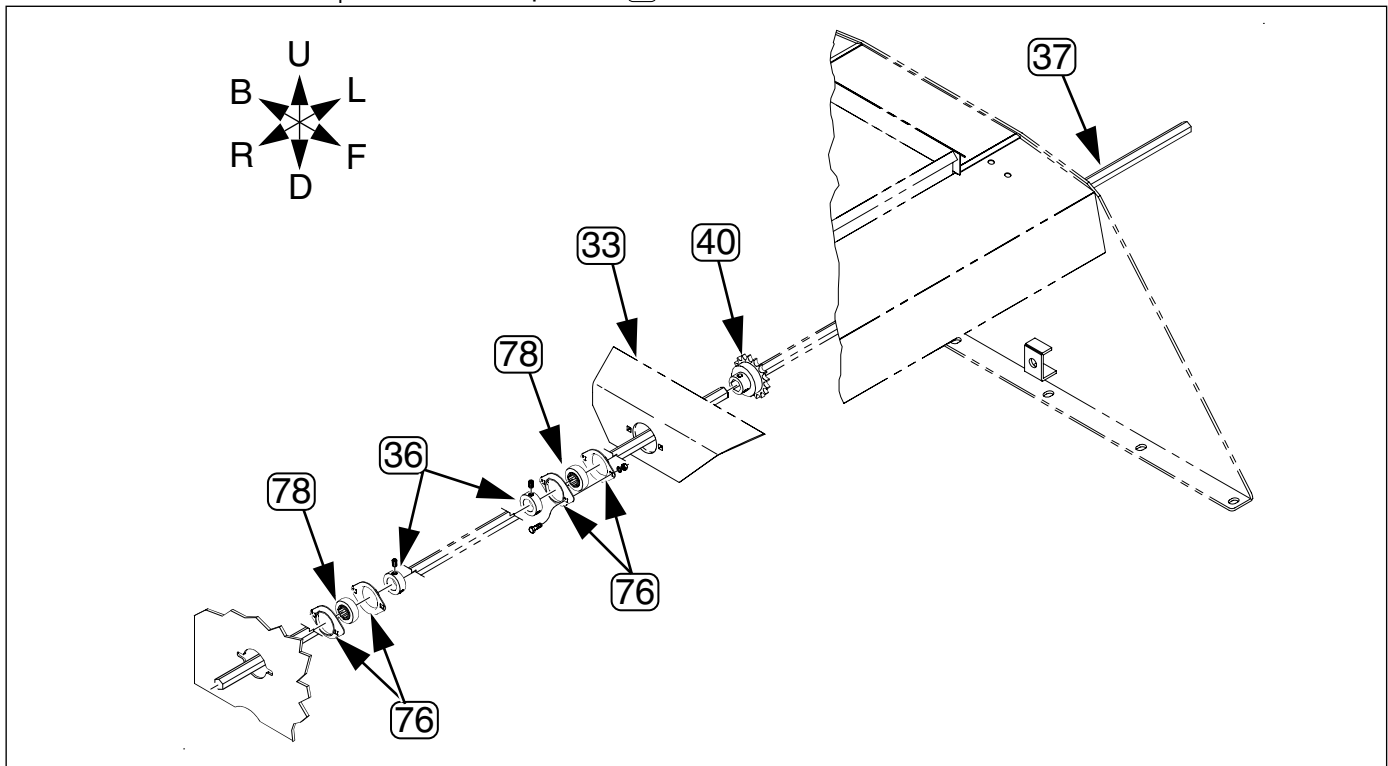

Figure 7
6. Bolt the  $\frac{3}{4}$  inch hex bore bearings (78) and flangettes (76) to the center panel, partition, and idler plate using  $\frac{5}{16}$ -18 x  $\frac{3}{4}$  inch long round head square neck bolts (54) as shown in Figure 7. Install the  $\frac{5}{16}$  inch lock washer (64) and  $\frac{5}{16}$ -18 nut (58) hand tight.